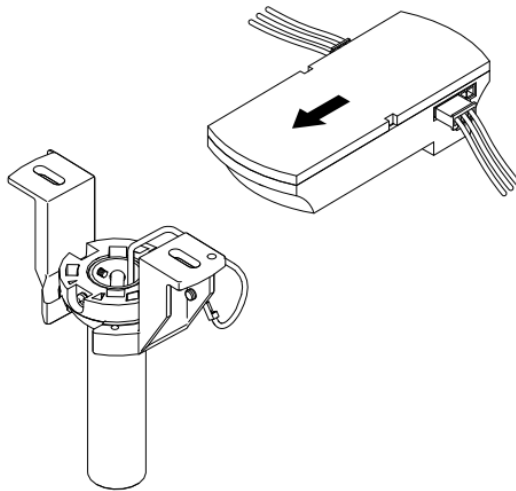

Fig. 13
9. Carefully insert the Remote Receiver above the hanger ball in the remainder spacing in the mounting bracket. Take care not to damage or loosen any of the wiring. (Fig. 13)